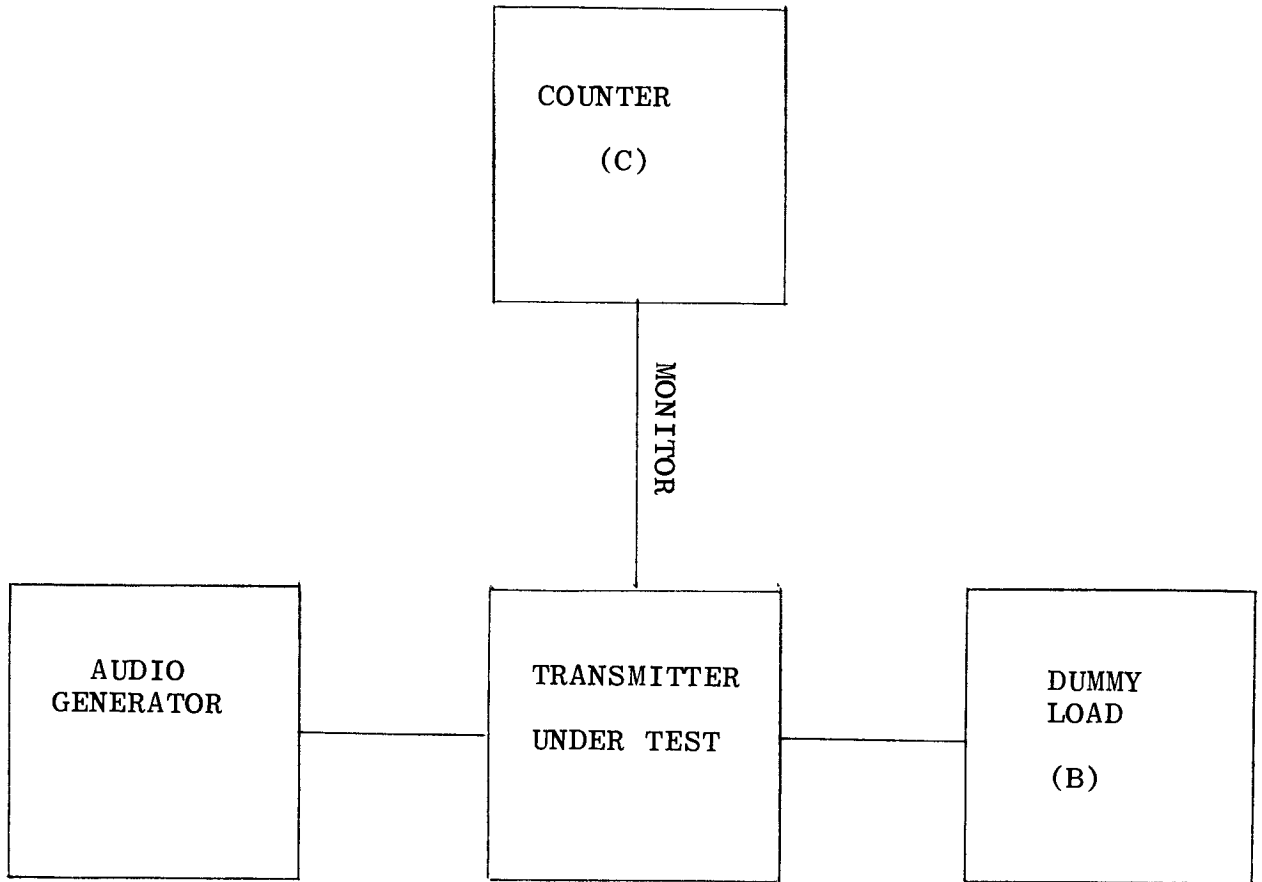

FIGURE 2.9
- a. Connect Equipment as shown in Figure 2.9.